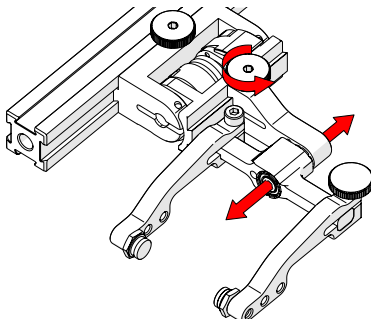

Fig. 44 - Adjust swing arm
3. Use the swing arm knob to position the swing arm (Fig. 44).
TIP: The swing arm is typically used to adjust TOFD center-to-center distance relative to the phased array probes on a four probe configuration (Fig. 44).